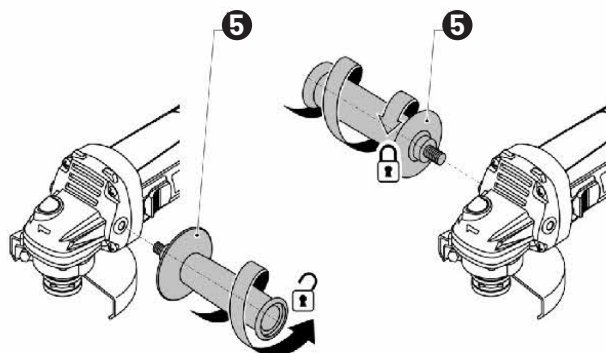

FIG.2
Mounting / dismantling (see fig. 2):
- Install the protective casing(4) on the spindle neck, ensuring that mounting lug(10) aligns with the groove (see fig. 2).
- Tighten screw(11) with a screwdriver.